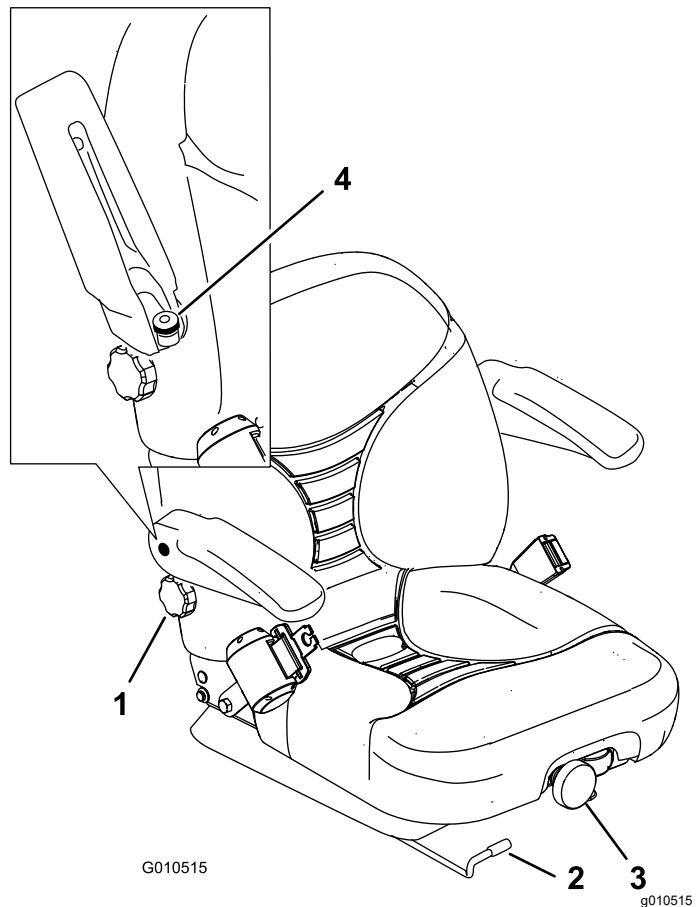

Figure 33
1. Move the lever sideways to unlock the seat (Figure 33).
To adjust the seat, turn the front knob in either direction to provide the best comfort (Figure 33).
To adjust the seat back, turn the knob under the right armrest, in either direction, to provide the best comfort (Figure 33).
Raise the armrest and turn the knob, in either direction, to provide the best comfort (Figure 33).